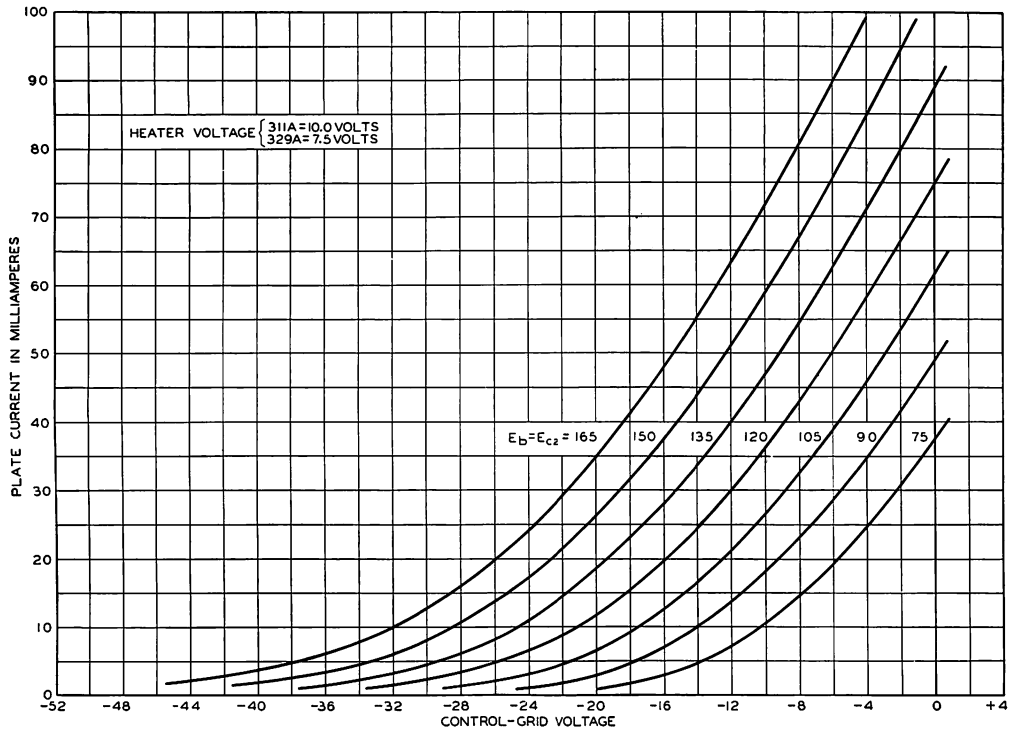
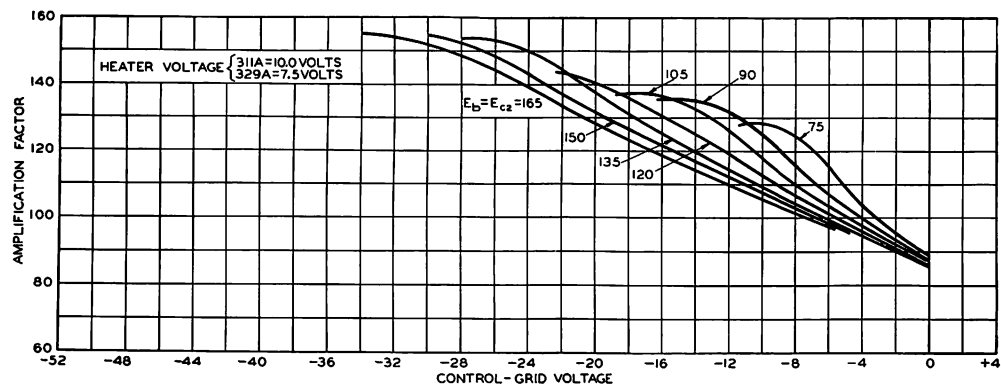

FIG. 3
FIG. 5
**Characteristics**—Figures 3 and 4 respectively, show plate current and screen-grid current as functions of control-grid voltage for several values of screen and plate voltage. In all curves the plate voltage is equal to the screen voltage. Amplification factor, plate resistance and transconductance curves for the conditions corresponding to those of Figures 3 and 4 are given respectively in Figures 5, 6 and 7.